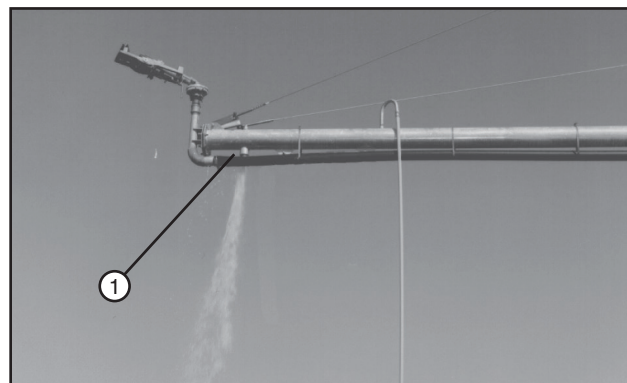

Figure 106-3 1. Sand Trap
5. Remove plugs from the overhang drains. Clean sand and foreign particles from these drains. Turn the rubber drain seal over when reinstalling. See figure 106-3.